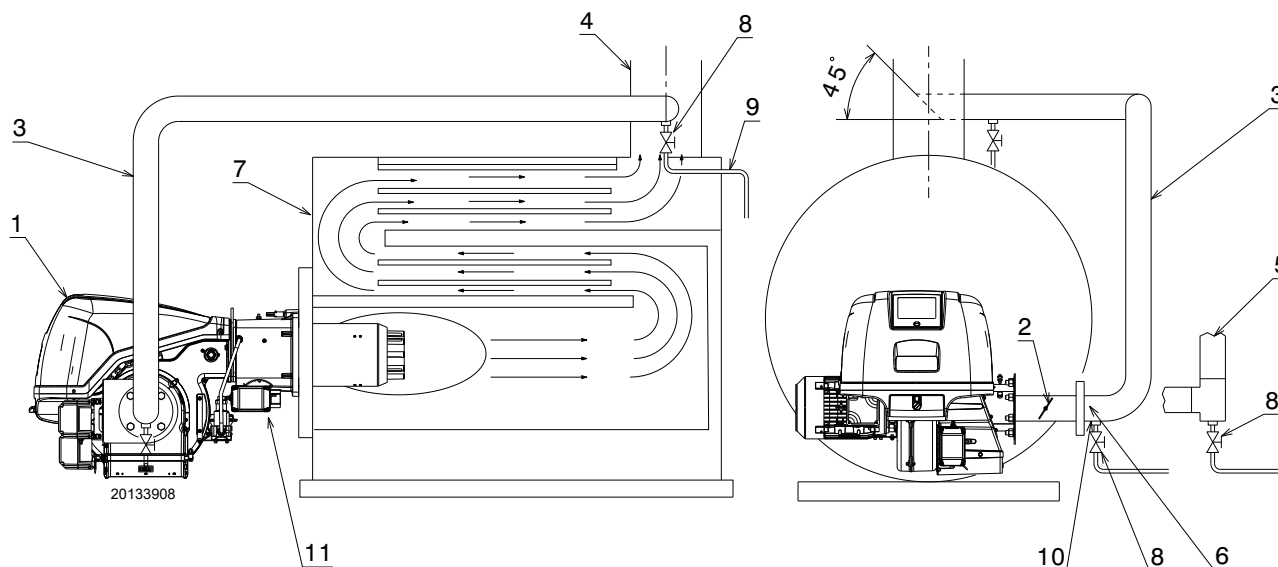

Fig. 26
- Normally the pipe would be connected to the flue stack as shown in Fig. 26, forming an angle of 45° facing the flow of the flue gases and with the centre of the angle located at the centre of the flue. The pipe can be connected to the flue gas chamber, but should anyway be kept at the same angle of 45° facing the flow of the flue gases and with the centre of the angle at the centre of the flow.
Key to layout (Fig. 26)
| Burner output kW | Flue gas pressure at test point 6)(Fig. 26) - mbar |